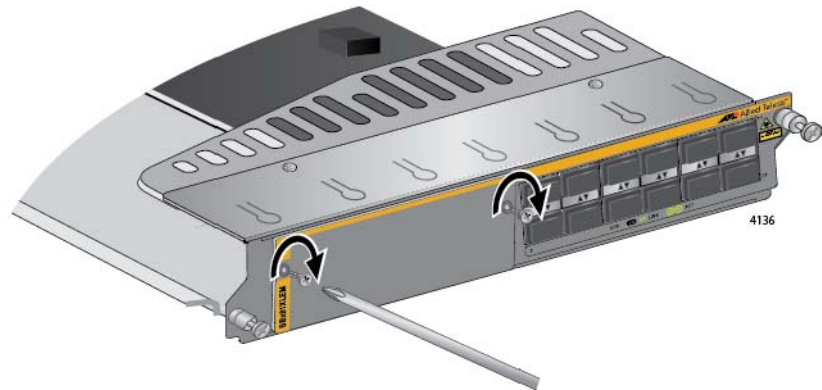

Figure 177. Securing the Blank Slot Cover
10. Secure the blank slot cover to the card with a Phillips-head screwdriver and the two screws removed in step 3. Refer to Figure 177.